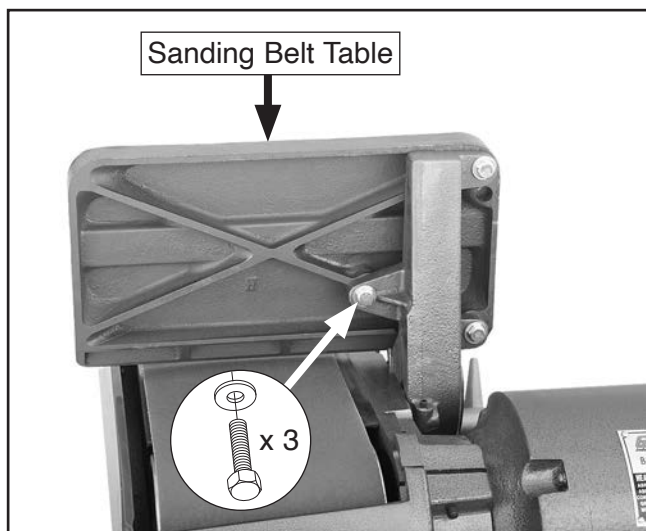

Figure 14. Example of sanding belt table attached to mount.
4. Attach sanding belt table to sanding belt table mount with (3) $\frac{5}{16}$ "-18 x 1" hex bolts and $\frac{5}{16}$ " flat washers (see **Figure 14**). Hand tighten bolts for now.